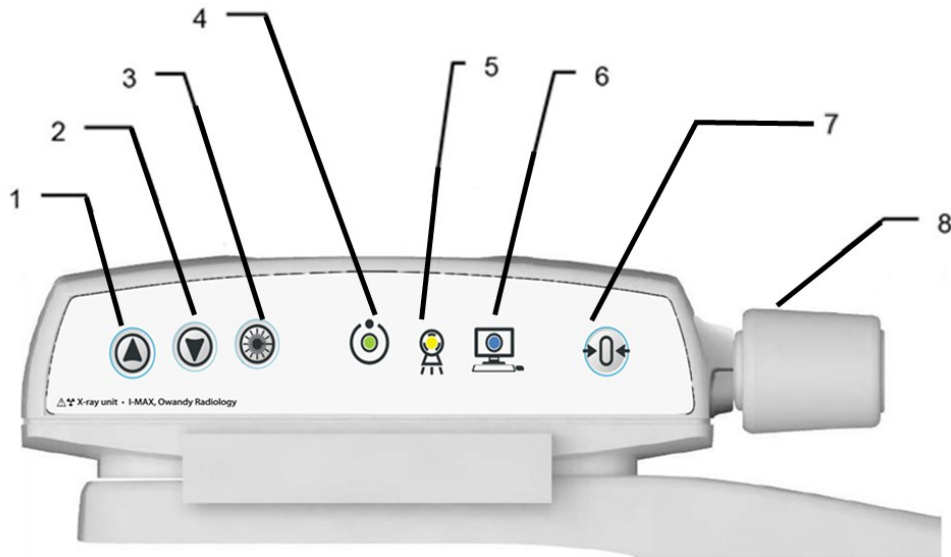

Figure 17 - Keyboard
When the "CHECK" function is complete, the green LED (3 - Figure 17) on the equipment keyboard starts blinking.
2. Run the "GUI" on the PC and wait for the connection between the PC and the equipment; this status is indicated by the blue LED on the equipment (5 - Figure 17) and on the GUI lighting up.
4. Press the button ">O<" on the keyboard to run the chin rest automatic positioning accordingly with the current exam selection. The white LED (8 - Figure 17) will starts blinking (system waiting for a user's input).
Ready for X-ray status is signalled by the green LED on the equipment (3 - Figure 17) and on the GUI lighting up.
Figure 17 shows a general view of I-MAX 3D control Interface.
I-MAX 3D assumes that the digital sensor is ready: if this is not the case, the blue light indicator of "Computer connection" status (5 - Figure 17) start blinking slowly.